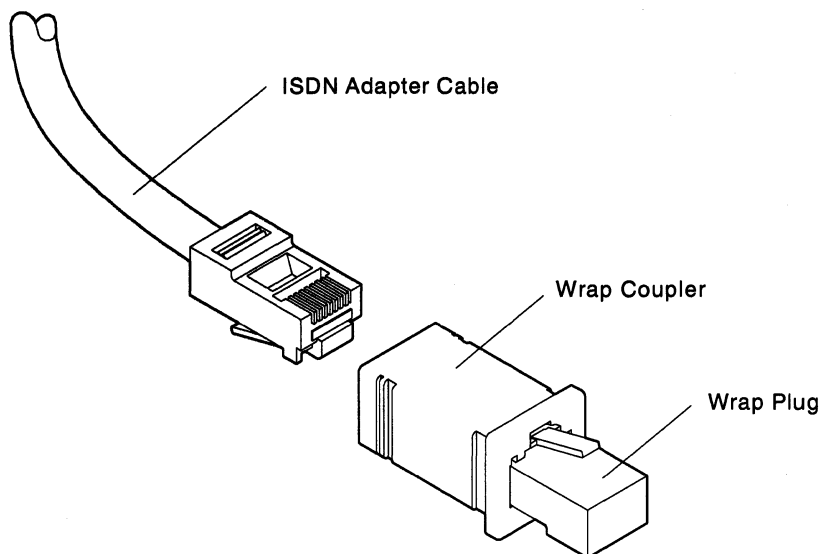

Figure 2-71. ISDN Adapter Cable Being Plugged Into the Wrap Coupler
Figure 2-71 on page 2-87 through Figure 2-75 on page 2-89 are provided as support information for this procedure.
- b. Plug the ISDN Adapter cable of the failing port into the ISDN wrap coupler. Be sure the ISDN wrap plug is plugged into the other end of the wrap coupler. Figure 2-71 on page 2-87 shows how to plug in this cable.